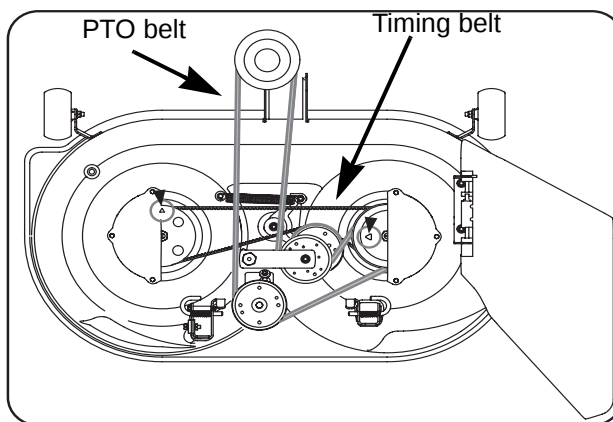

Figure 8.18
- For a 42" timed "R" deck, See Figure 8.18.